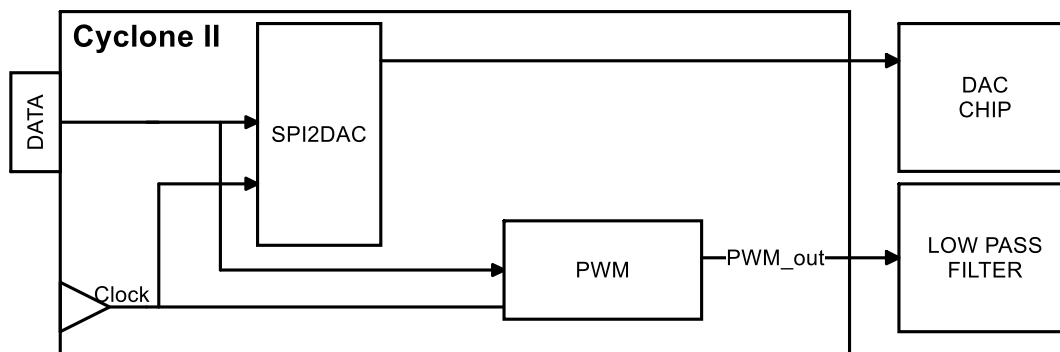

Figure 2: Block diagram of Waveform generator
There are different methods for digital to analog conversion. You can either use an external chip like using an add-on-board card that consists of both ADC and DAC or it can be implemented using pulse width modulation. Figure 2 shows the DAC circuit. As can be seen for realizing an external DAC chip a serial to parallel interface is required between the FPGA board and the chip. In this experiment, you will use the second method to have a digital to analog conversion. The following is a brief description of how PWM works as a DAC.
Period of PWM has to be small enough so the effect of on/off switching be unnoticeable on load. Pulse Width (PW) determines amount of power that is fed to load. In this experiment period of PWM is fixed to 256 clocks and its pulse width is the value on 8-bit input of module. Figure 2 shows sample PWM waves. In each cycle, first 'PW' clock output value is '1' and it is '0' for rest of cycle.
- 1- You can construct the circuit as shown in Figure 2 inside the FPGA using the 50MHz input clock of the FPGA as the source signal. Use a counters to divide the frequency of input clock. Set the switches of the FPGA as the parallel load required for the desired frequency. Write the Verilog code for this part